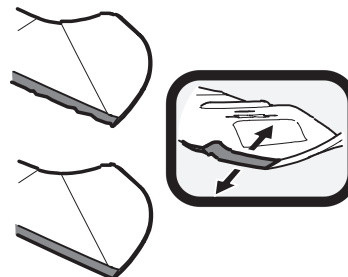

Figure 32
1. To properly sharpen the cutting blades, remove equal amounts of metal from both ends of the blades along the cutting edges, parallel to the trailing edge, at a 25° to 30° angle. Always grind each cutting blade edge equally to maintain proper blade balance (Figure 32).